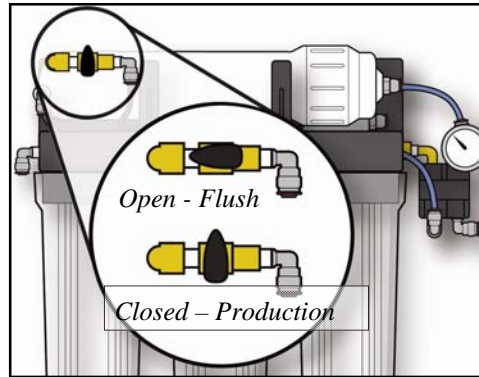

Figure 18, Manual Flush Valve
- 3) Put Flush Valve into the "Open - Flush" position. (See Figure 18, page 22)